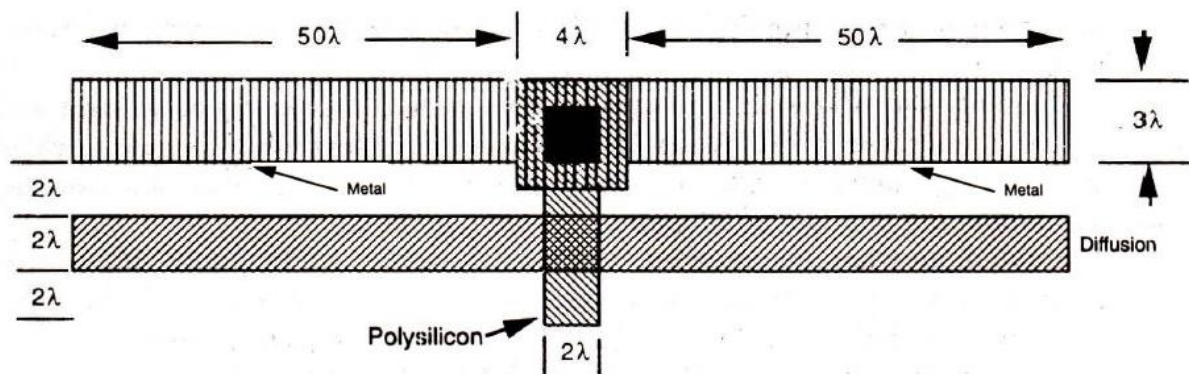

FIG. 6B
- 6B. Calculate the effective input capacitance for the given multi-layer structure in **FIG. 6B** for 5 μ m process. Relative Capacitance value for metal= 0.075, polysilicon=0.1 and Gate to channel = 1.0. (10+10)